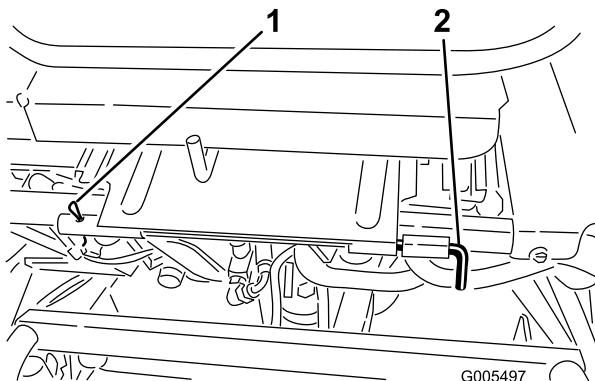

Figure 36
3. Lower the seat and remove the cotter pin securing the seat pivot rod to the frame (Figure 36).